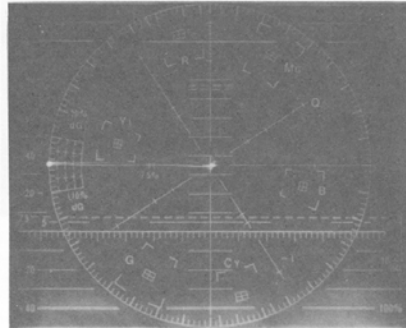

Figure 5-11
- Set the 5872A into the VECT mode. Adjust the level and phase by using MAG x 5, GAIN VAR, and PHASE as shown in Fig. 5-11. When the DG and DP value are large, measure them using the scale on the lower-left of the -(B-Y) axis. DG values from 2 to 10 % and DP values 2 to 10° can be measured. For DG and DP under 2% and 2°, perform the following.